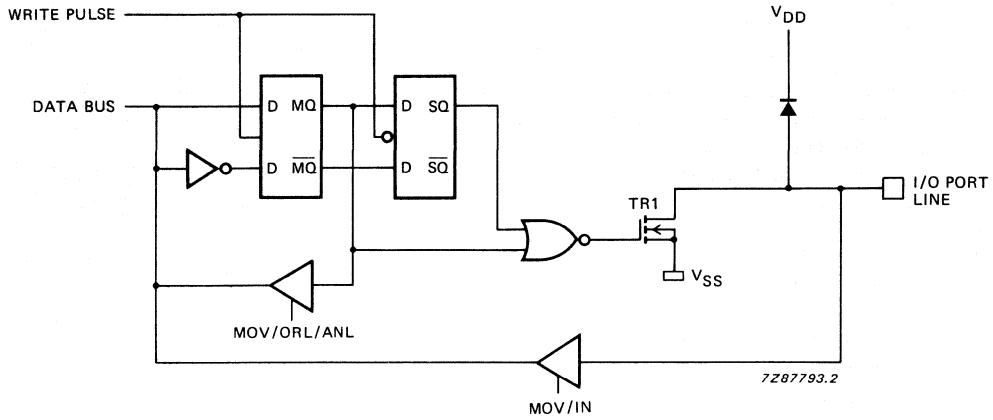

Fig. 13 Open drain output.
- Option 2 – OPEN DRAIN; quasi-bidirectional I/O with only an N-channel open drain output. Application as an output requires connection of an external pull-up resistor (Fig. 13).